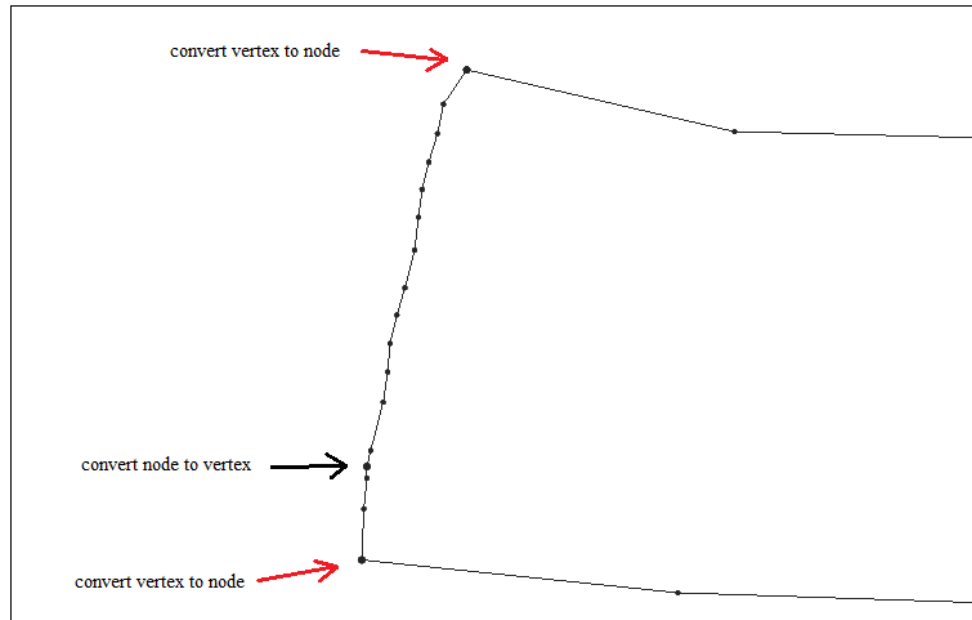

Figure 4 Nodes to be converted to vertices
13. Do the same to the lower boundary of the coverage (see red arrows in Figure 4).
15. Right-click and choose **Convert to Vertex** (see black arrow in Figure 4).